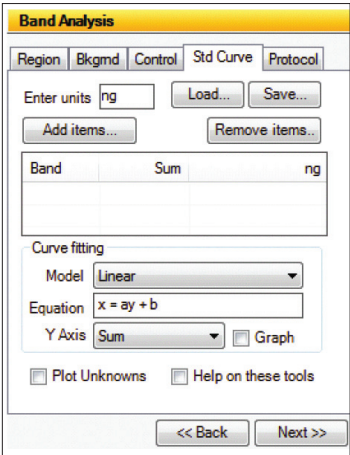

Figure 15. The Band Analysis Module showing the Standard Curve tab.
6. Standard Curve. The button in the Band Analysis toolbox labeled Std Curve opens a set of tools that create a calibration curve for applications such as quantitative PCR and Western Blot band quantitation (Figure 15). The calibration curve functions allow quantitation of the bands based on a set of standards. A minimum of two standard bands must be specified, but the accuracy of the calibration curve increases as the number of standard bands and their range of values increases. The standard curve feature can only be performed on single channel images. To create a standard curve for a multicolor image, you can extract a three color image into its individual channels and then proceed with calculating a standard curve.